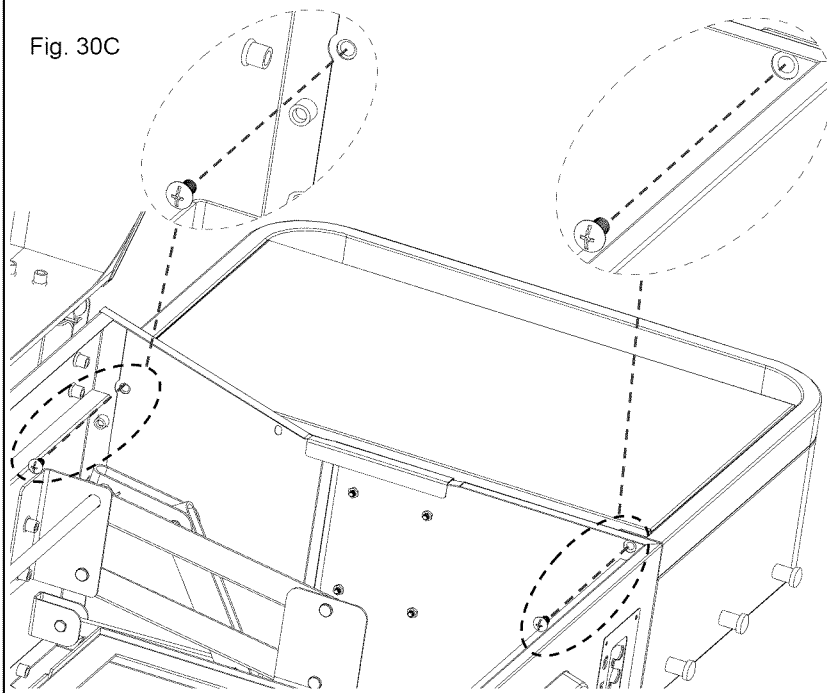

Fig. 30C
Attach the upper part of the Side Shelf to the cabinet using (2) M6x12 bolts from INSIDE of the cabinet as shown as Fig. 30C.